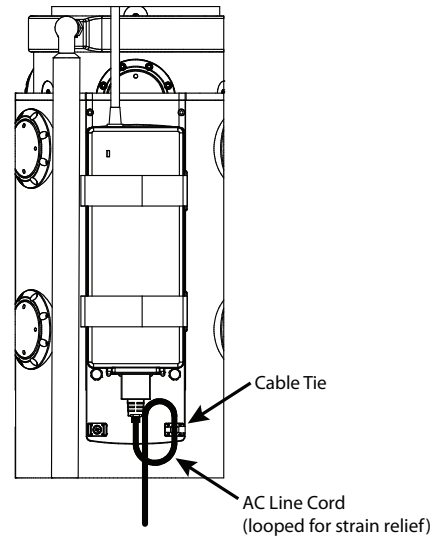

Figure 4 - Fastening the AC Line Cord to the Bracket
5. Fasten the AC line cord to the bracket, using a cable tie provided in the bracket kit (Figure 4).
IMPORTANT: Loop the cable as shown in Figure 4, to ensure proper strain relief.